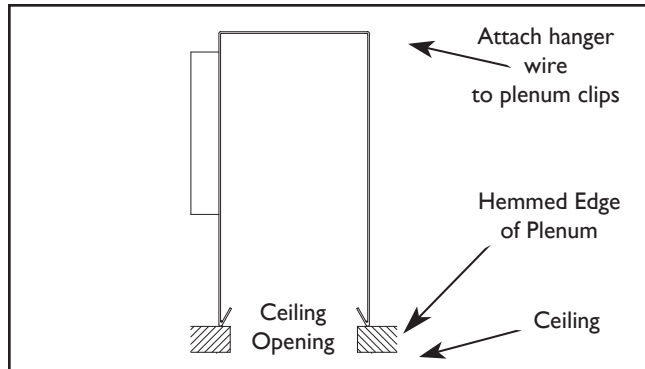

Figure 11. Concealed Fastening Plenum Installation
- The Plenum should be hung so that the Plenum straddles the ceiling opening and the bottom edge of the Plenum rests on the backside of the ceiling as shown in Figure 11.